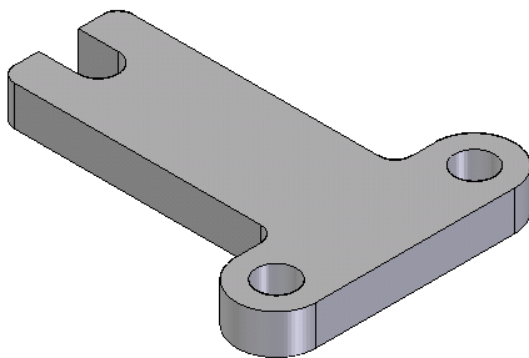

Figure 5-70 Base feature of the model
- Create the base feature with two holes on the top plane, refer to Figure 5-70.
6. Choose **Finish** and then choose **Cancel** from the ribbon bar. The base feature of the model is shown in Figure 5-70.